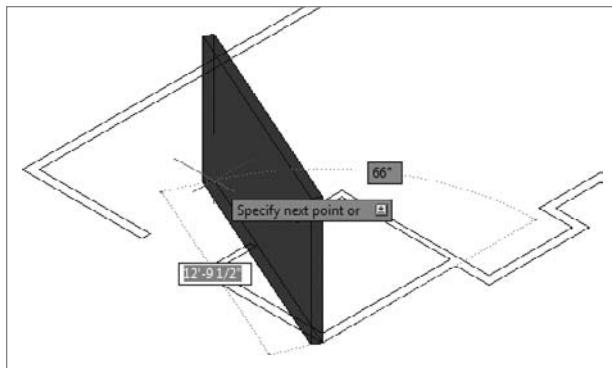

FIGURE 16.10 Starting the first polysolid wall
6. You're now ready to begin creating the walls. Use the Endpoint osnap to select the corner for the exterior wall of the cabin nearest to the bottom of the screen, and then move the cursor. The first wall appears and it is tied to the cursor, as shown in Figure 16.10.